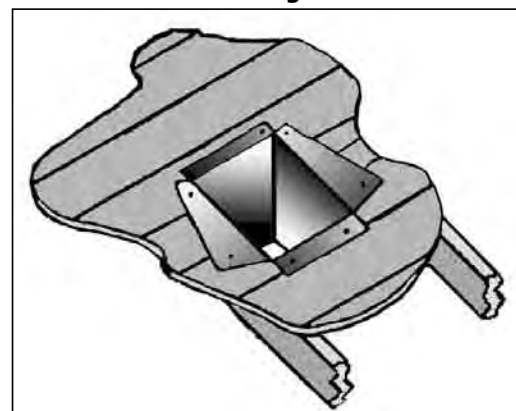

Figure 20: Cathedral Ceiling Support Box Installation.
STEP 5. Using tin snips, cut the "Support Box" from the top corners down to the roof line, and fold the resulting flaps over the roof sheathing (Figure 20). Before nailing it in to the roof, run a bead of non-hardening mastic around the top edges of the "Support Box", to make a seal between the box and the roof. Clean out any combustible material from the inside of the "Support Box".